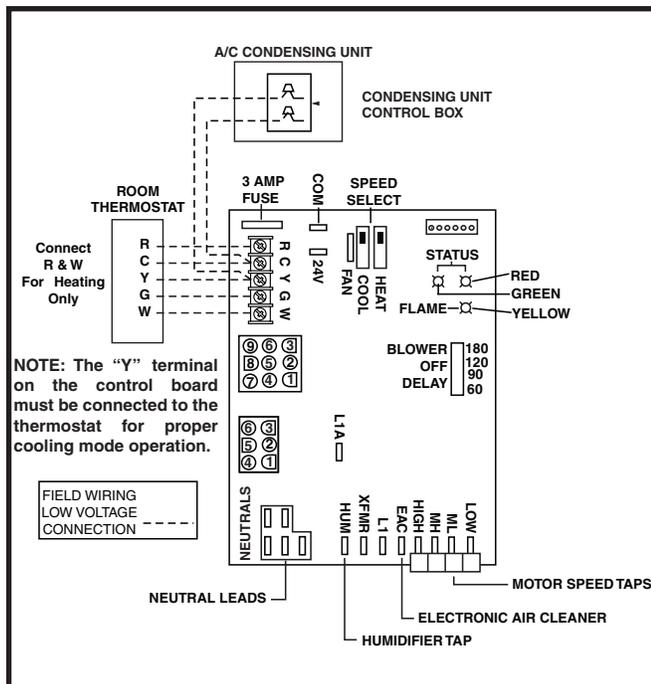
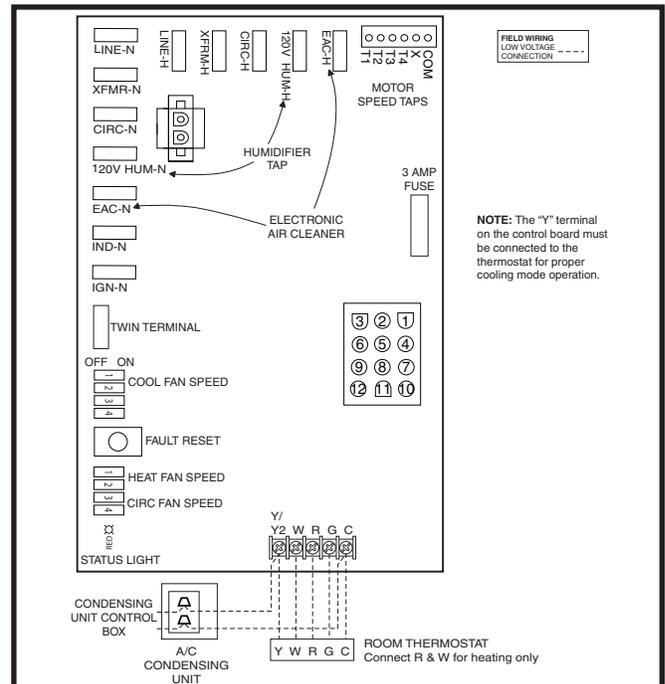

Figure 42. Nordyne/UTEC Emerson Low Voltage Field, Four-wire Heating/Cooling Applications
Figure 43. Emerson Low Voltage Field, Four-wire Heating/Cooling Applications
- ✓ Verify the jumper on the Nordyne/UTEC board or dipswitch on the Emerson board (for fan speed) on the control board. To select fan speed, see Figure 42 and Figure 43 \(page 31\) and set the jumper on the control board.